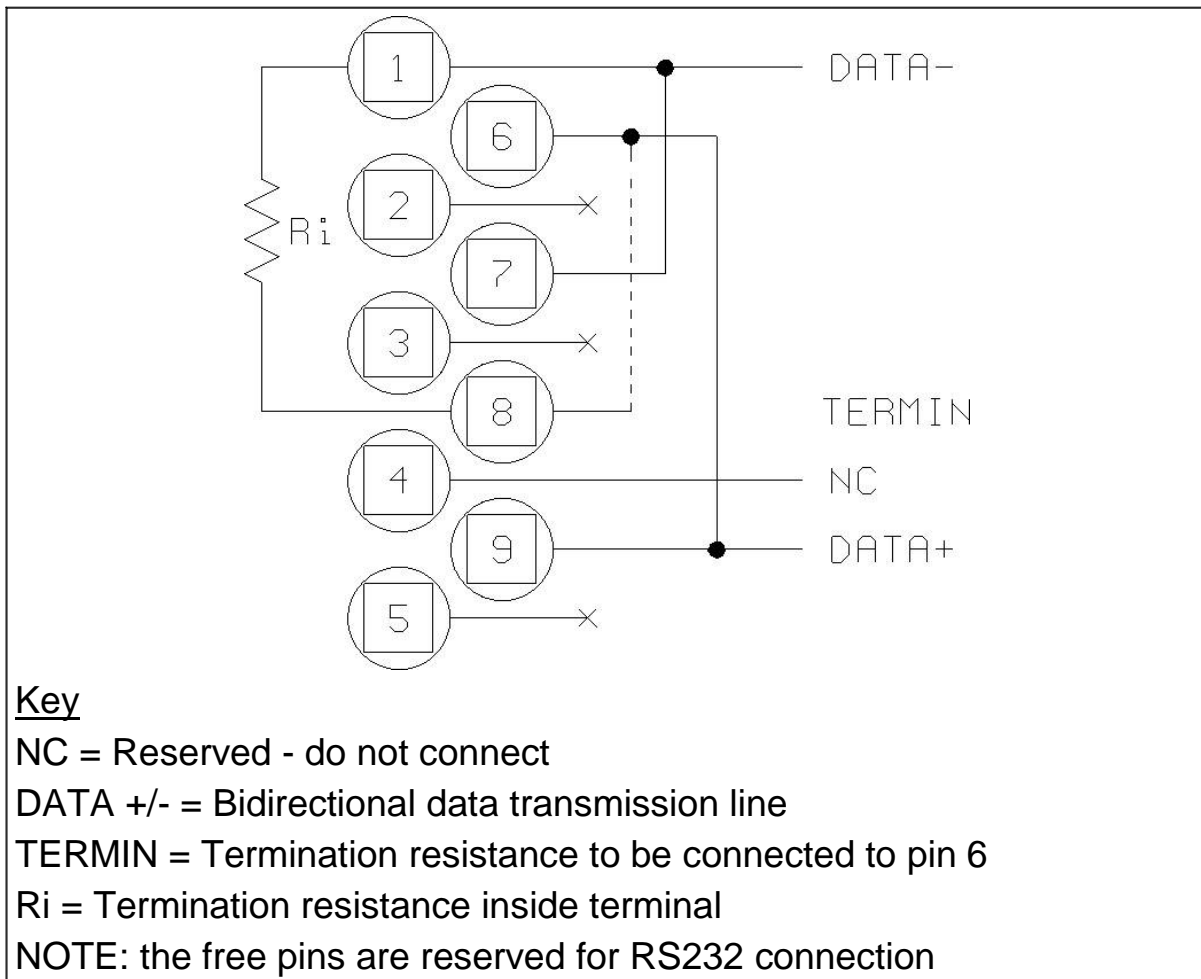

Figure 3.7 - Pinout for RS485 serial port connection (log0006.gif)
- ✓ connect together pins 9 and 6 and pins 1 and 7 (Figure 3.7 on page 1-32)